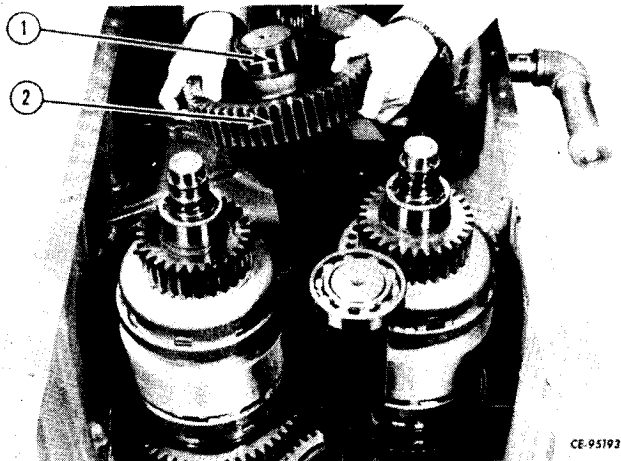

Figure 4-28
Remove lower counter shaft (1, Fig. 4-28) by grasping low speed transfer gear (2), lifting and cocking it slightly toward the bottom of the transmission.